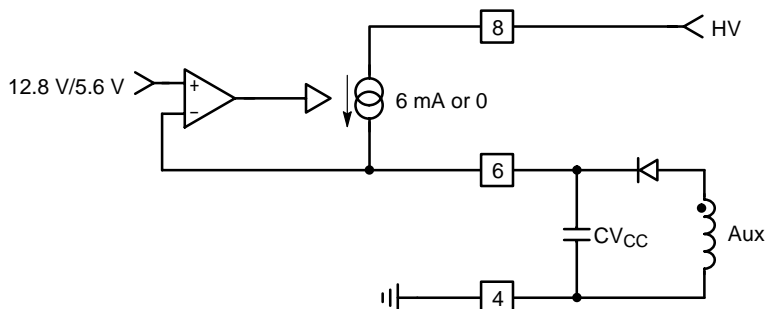

Figure 18. The Current Source Brings V_{CC} Above 12.8 V and then Turns Off
12.8 V), the current source turns off and no longer wastes any power. At this time, the V_{CC} capacitor only supplies the controller and the auxiliary supply is supposed to take over before V_{CC} collapses below $V_{CC_{min}}$. Figure 18 shows the internal arrangement of this structure.